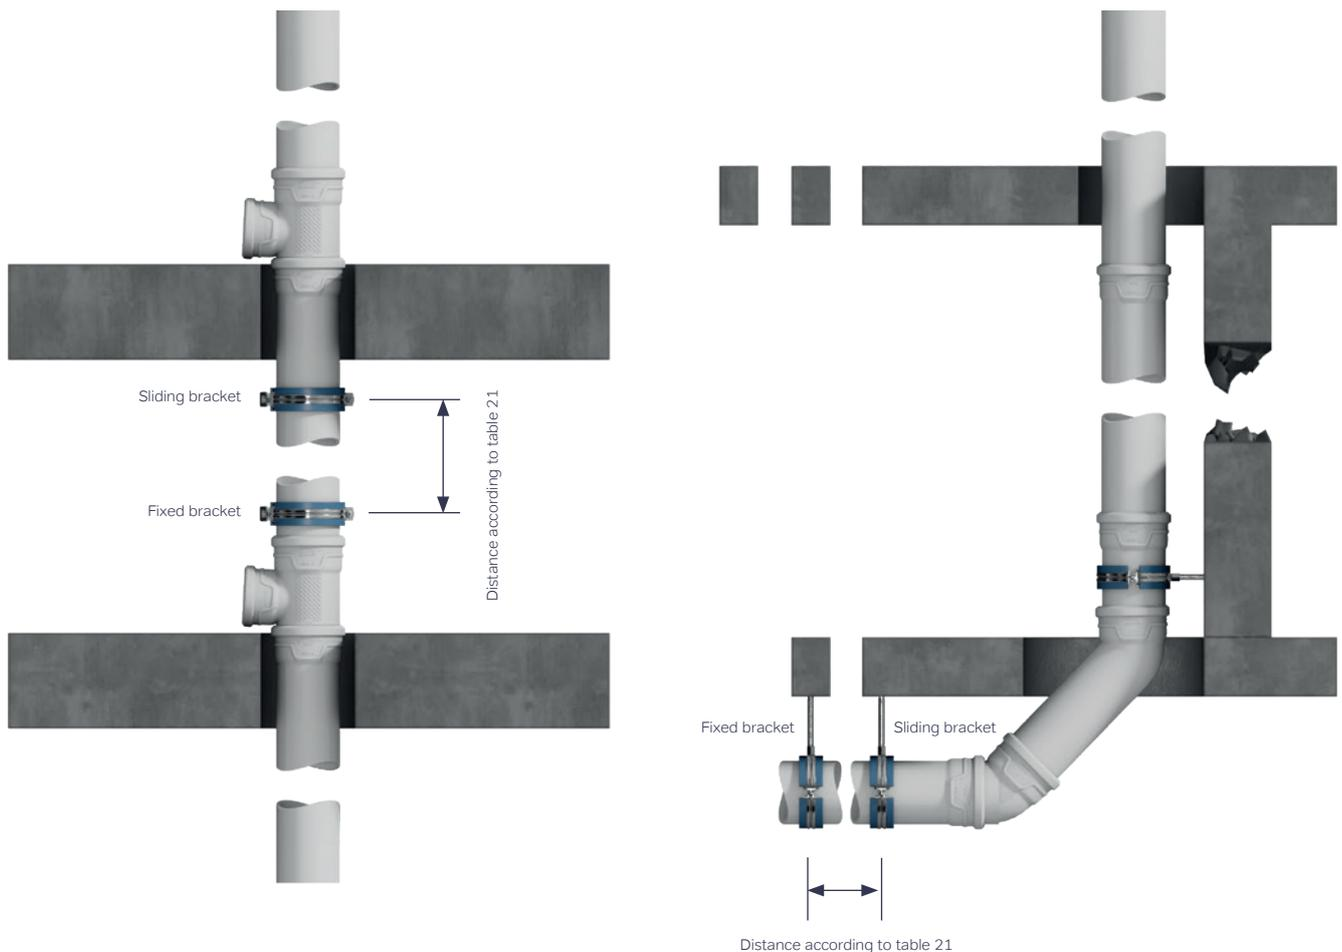

Fig 36: Example horizontal and vertical installation.
- ⦿ In multiple storey buildings (from 3 storeys and more) the stack pipes of 110mm must be secured by additional fixing (stack pipe support) to prevent sliding. In this case we advise using the Wavin AS+ socketed short length with a fixed bracket (see figure 36)